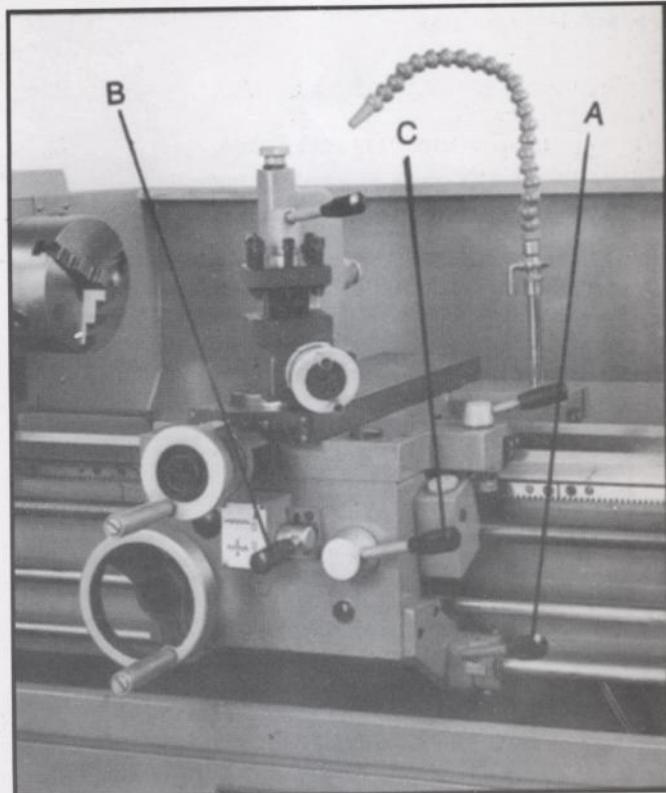

Fig.18
1. Move the forward/reverse selector (A, Fig. 18) up or down depending on desired direction.
1. Push lever(B,Fig.18) to the left and down to engage crossfeed. Pull lever to the right and up to engage longitudinal feed.
3. Engage the half nut lever(C,Fig.18).